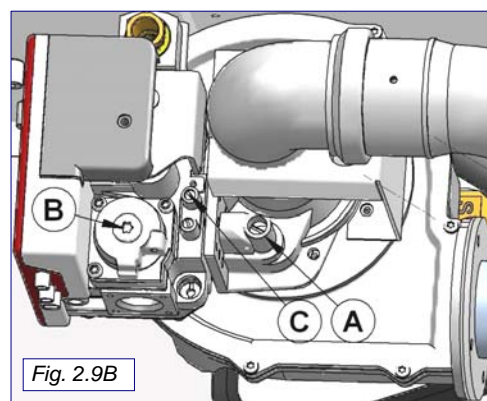

Fig. 2.9B
**N.B.** The gas valve screw (B) (Fig.2.9B) does not require adjustment as it has already been set by the manufacturer to an air/gas ratio of 1/1